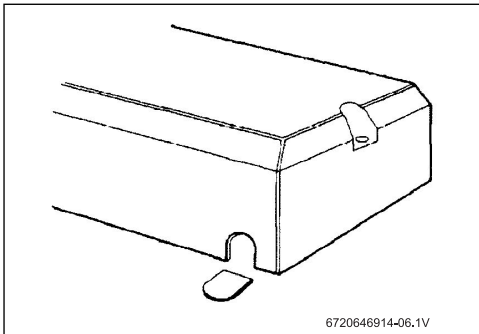

Fig. 9 Cover lug cut out
- ▶ If it is going to be through the cover bottom, cut out the plastic lug to expose the rubber sleeve (Fig. 9):